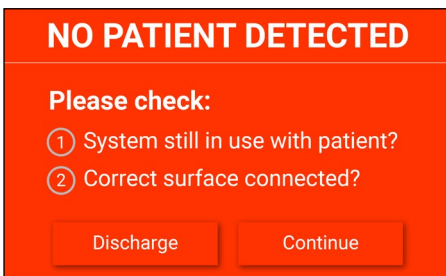

Figure 27. Patient not detected instruction
- The Guardian 2.8 General Use System will alert the user if after a period of time a patient is not detected on the support surface when being used on the bed or seat only. An auditory alert will occur for three (3) minutes.
- Follow the instructions on the screen to address the alert. (Fig. 27) Assess for proper placement of the support surface.